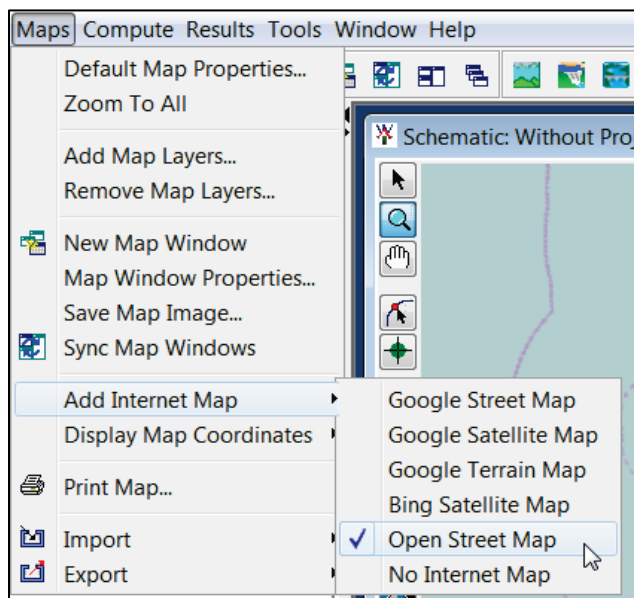
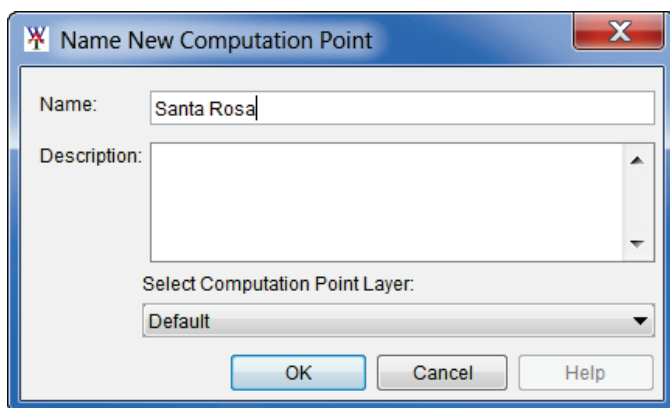

Figure 7.13 Maps Menu - Add Internet Map
**Figure 7.14** Import Computation Points Dialog Box
Knowing where the watershed is located in reference to known locations can be quite helpful when communicating with the PDT and stakeholders. From the **Maps** menu (Figure 7.13), point to **Add Internet Map**, from the available list select the internet map that would be a good background (*Open Street Map*) map for the watershed. The selected internet map will load and appear in the active **Map Window**.
1. From **Maps** menu (Figure 7.13), point to **Import**, click **Computation Points**. The **Import Computation Points** dialog box will open (Figure 7.14). The **Shapefile Name** list defaults to the first point shapefile it can find in the *maps* directory of a study; if that is not the correct shapefile, the user can choose the correct shapefile from the **Shapefile Name** list.
- From the **Database Field Name** list (Figure 7.14), select the field name in the attribute file that contains the names of the CCPs (for the example in Figure 7.14 that name is **ID\_Name**). Once a field name is selected, the table below the **Database Field Name** list (Figure 7.14) will populate with the CCPs contained in the shapefile. If there is an issue with any of the CCPs the checkbox in the **Import** column will not be selected.
- Click **Import**, the **Import Computation Points** dialog box will close (Figure 7.14). Once the import of the CCPs is completed, a message window will appear letting you know that the CCPs have been imported successfully. In the active **Map Window** the CCPs appear as black circles.
- From the **Maps** menu (Figure 7.13), point to **Import**, click **Impact Areas**. The **Import Impact Areas** dialog box will open (Figure 7.20). The **Shapefile Name** list figures out whether there are any polygon shapefiles available in the *maps* directory of a study; if the correct shapefile is not selected, the user can choose the correct shapefile from the **Shapefile Name** list.